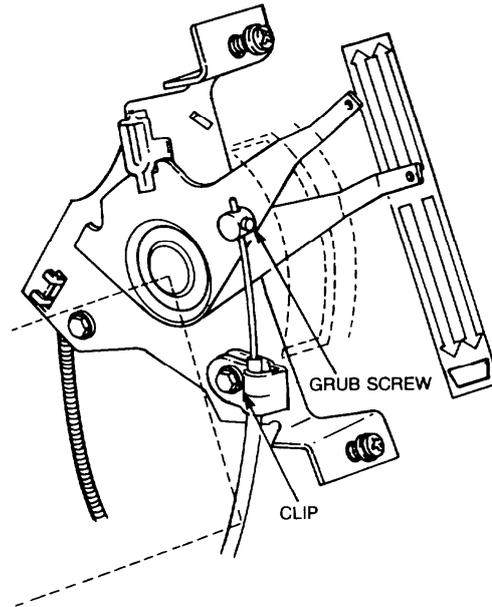

Figure 237 Heater Control Removal
- g. Remove the two screws securing the heater control assembly to the end cover (Figure 237).